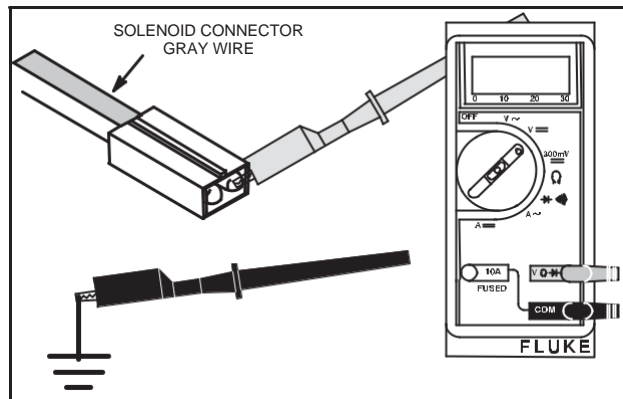

Fig. 32 – Checking Wiring
3. Attach black test lead to a good ground, Fig. 32.